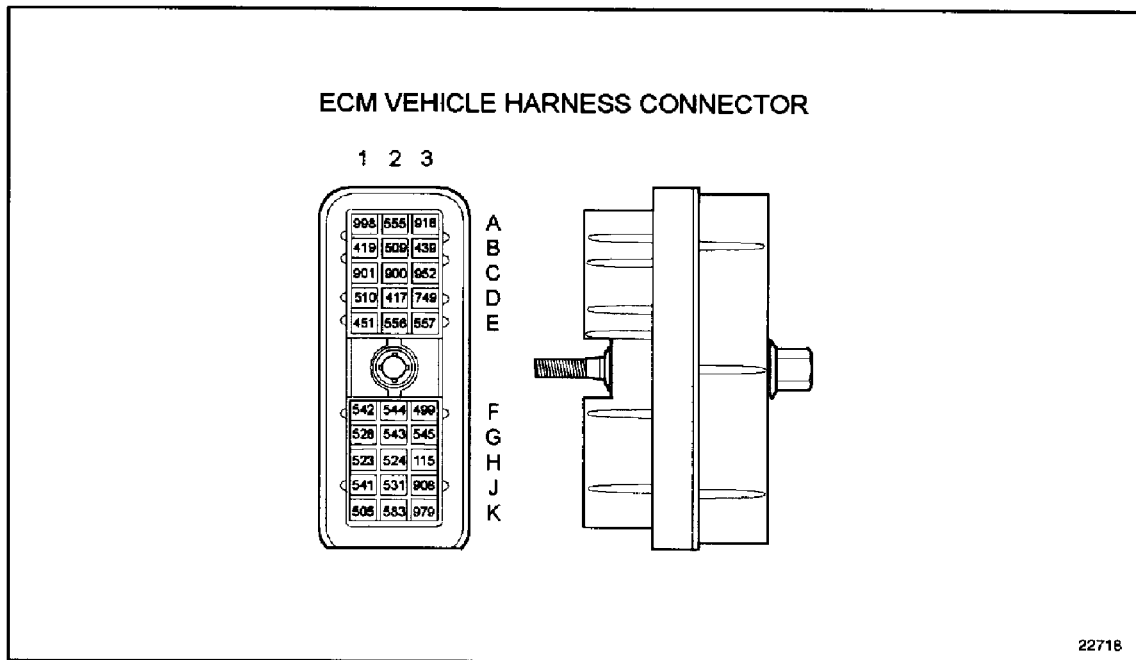

Figure 54-1 ECM Vehicle Harness Connector
See Figure 54-1.
1. Measure resistance of VSS across vehicle speed sensor connector pins. See Figure 54-1.